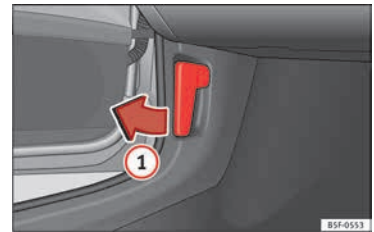

Fig. 8 See position on page 9-10
- Opening the bonnet: Pull the lever under the dashboard » **Fig. 8 ①**.